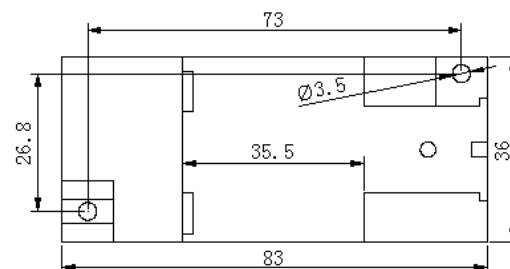

Figure 5, installation dimensions
DIN35 rail mounting or screw mounting installation, the installation size is shown in Figure 5 (in mm).
① 4mm diameter hole in the fixed plate according to the screw hole position shown in Fig. 5;
② Use the screw  $\Phi 3.5$  to insert into hole and secure it.